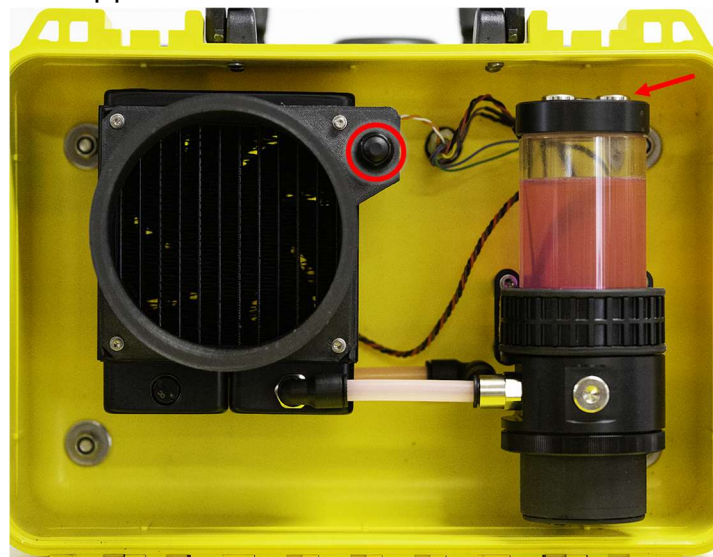

Figure 2. Coolant compartment of TX unit with bypass button indicated in red circle.
- To open the reservoir, unscrew the front bolt in the top of the reservoir (see arrow in Figure 2) using an Umbraco/Hex/Allen type key.
- Run the pump by pushing the bypass button seen in Figure 2. This will circulate the pump and empty the reservoir, allowing you to fill coolant again in an iterative approach.